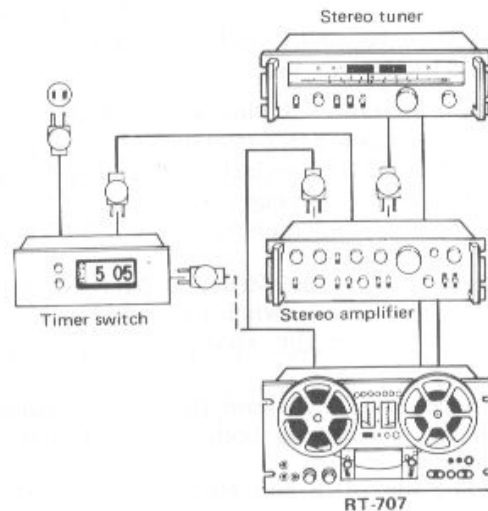

Fig. 23
1. As shown in Fig. 23, connect the RT-707's power cable to the Timer switch. Also, plug the power cables of the stereo amplifier and tuner into the timer so that their ON-OFF functions are controlled by the timer.